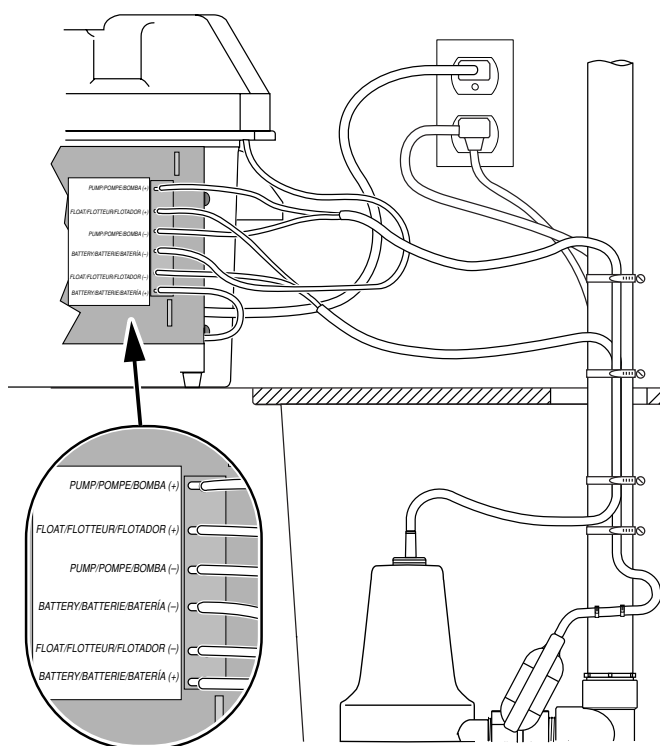

Figure 8 – Wiring Connections A5500
1. Connect charger as shown in Table I and Figure 8.